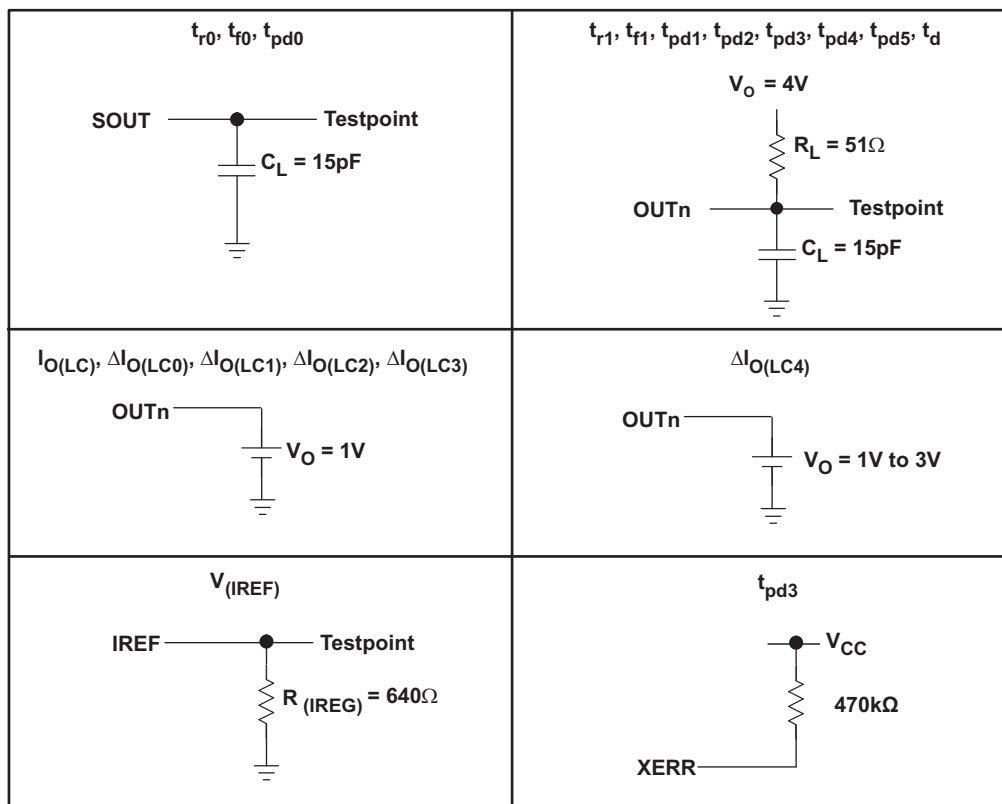

Figure 2. Parameter Measurement Circuits
| $I_{O(LC)}$         | Constant sink current (see <a href="#">Figure 2</a> )       | All output ON, $V_O = 1\text{ V}$ , $R_{(IREF)} = 640\Omega$  | 54             | 61         | 69      | mA            |
| $\Delta I_{O(LC0)}$ | Constant sink current error (see <a href="#">Figure 2</a> ) | All output ON, $V_O = 1\text{ V}$ , $R_{(IREF)} = 640\Omega$ , OUT0 to OUT15, $-20^\circ\text{C to }85^\circ\text{C}$                 |                | 1          | $\pm 4$ | %             |
| $\Delta I_{O(LC1)}$ | Constant sink current error (see <a href="#">Figure 2</a> ) | Device to device, Averaged current from OUT0 to OUT15, $R_{(IREF)} = 1920\Omega$ (20mA) (2)                                |                | -2+0.4 | 4       | %             |
| $\Delta I_{O(LC2)}$ | Constant sink current error (see <a href="#">Figure 2</a> ) | Device to device, Averaged current from OUT0 to OUT15, $R_{(IREF)} = 480\Omega$ (80mA) (2)                                 |                | -2.7+2 | $\pm 4$ | %             |
| $\Delta I_{O(LC3)}$ | Line regulation (see <a href="#">Figure 2</a> )             | All output ON, $V_O = 1\text{ V}$ , $R_{(IREF)} = 640\Omega$ , OUT0 to OUT15, $V_{CC} = 3\text{ V to }5.5\text{ V}$ (3)    |                | 1          | $\pm 4$ | %/V           |
| $\Delta I_{O(LC4)}$ | Load regulation (see <a href="#">Figure 2</a> )             | All output ON, $V_O = 1\text{ V to }3\text{ V}$ , $R_{(IREF)} = 640\Omega$ , OUT0 to OUT15 (4)                             |                | $\pm 2$    | $\pm 6$ | %/V           |